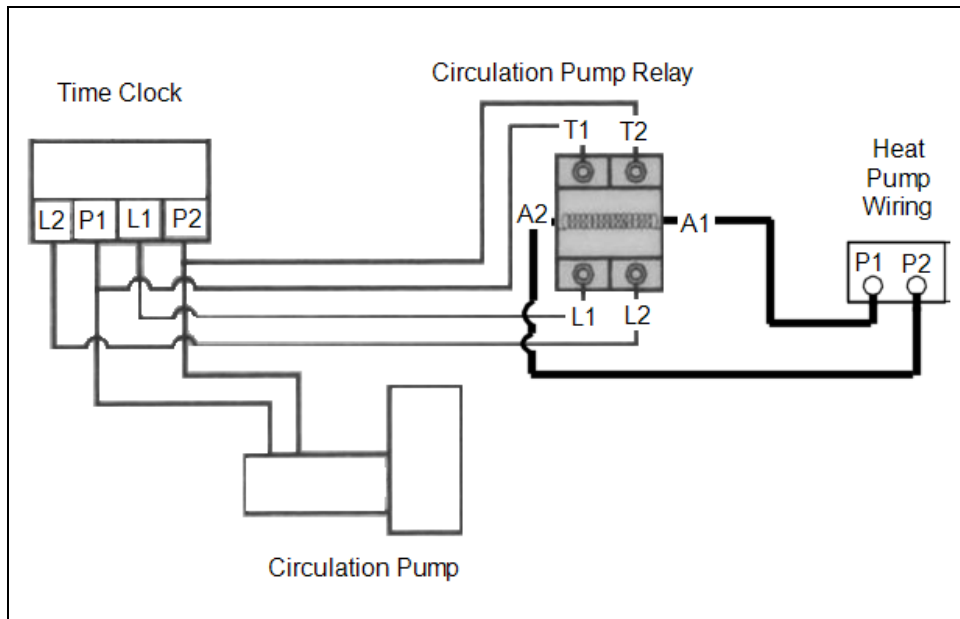
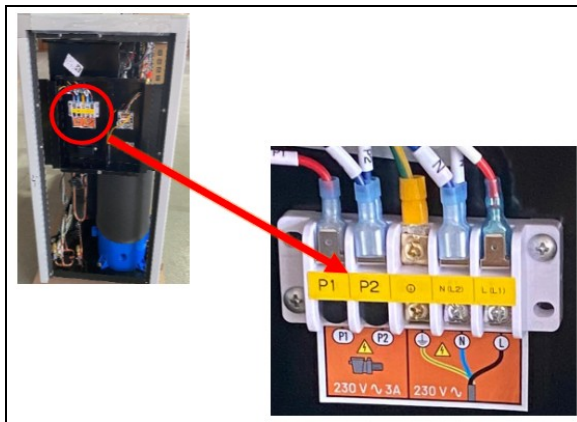
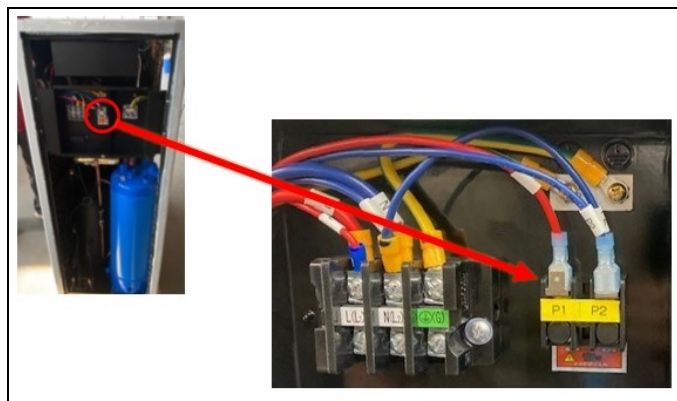

Figure 4
Figure 5
Figure 6
2. Connect the coil of the relay ("A1" and "A2") to the "P1" and "P2" terminals to the heat pump as indicated. See Figure 4, Figure 5, and Figure 6.